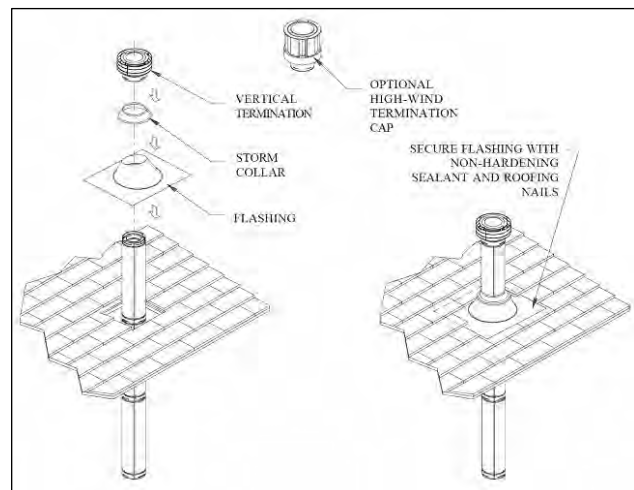

Figure 42: Installation of Flashing & Vertical Termination.
- Step 6.** Slip the flashing over the Pipe Section(s) protruding through the roof. Use a non-hardening sealant between the Flashing and the roof to prevent water leakage. Secure the base of the Flashing to the roof with roofing nails. Ensure the roofing material overlaps the top edge of the Flashing as shown in Figure 42. Verify that you have at least the minimum clearance to combustibles at the roofline.
- Step 8.** Slip the Storm Collar over the Pipe, and push it down to the top of the Flashing, as shown in Figure 42. Use the non-hardening sealant above and below the joint between the Storm Collar and the Pipe.